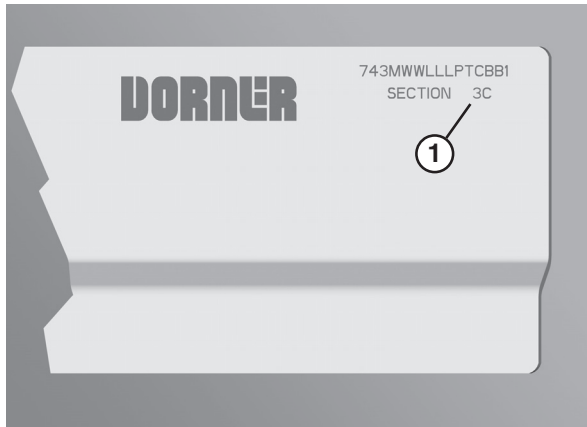

Figure 39
1. Locate the section number sequence etched on each section of frame (Figure 39, item 1)